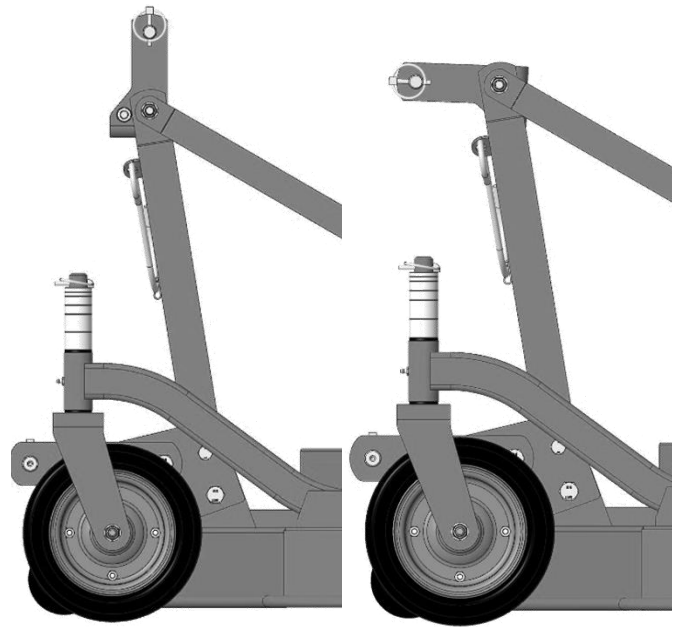

Figure 10
1. Fixed Position [Figure 10, left image]
2. Floating Position – allows the attachment to float and follow the contour of hilly or uneven terrain [Figure 10, right image]